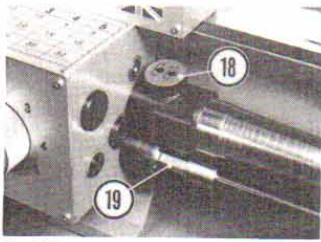

Fig. 22
This should be engaged **only for thread cutting**. Engage and disengage by means of the knob No. ⑱, Fig. 22.
On the Feedshaft No. ⑲, Fig. 22, protects the transmission against overload and permits turning to dead stops in either cross or longitudinal feed.